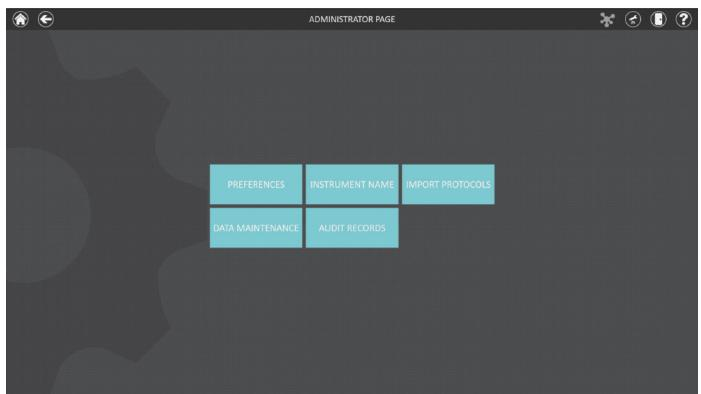

Figure 99. 'Administrator Page' screen.
2. On the 'Settings' screen, tap the **Administrator** button to open the 'Administrator Page' screen (Figure 99). This button is only visible if the current user has Administrator-level access to the GloMax® Software.